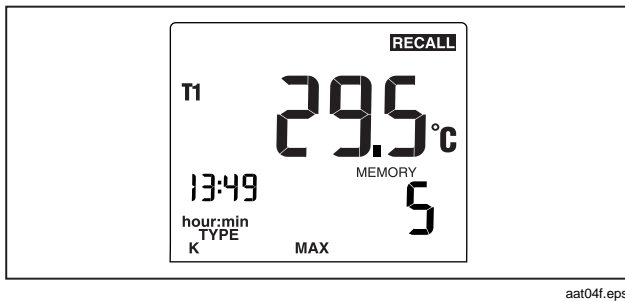

Figure 4. Maximum Reading
3. Press  to step through the minimum, maximum, average, and current logged reading. For example, Figure 4 shows the maximum reading in memory. The maximum reading occurred at 1:49 P.M. and was stored in memory location 5.